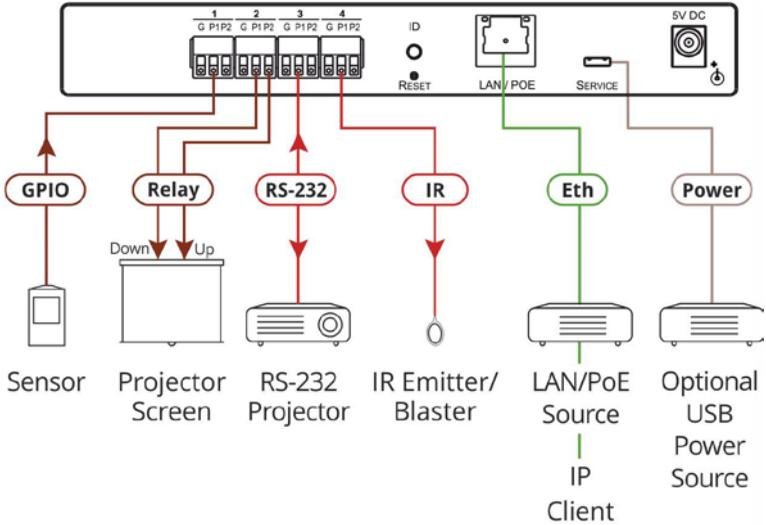

Figure 5: Connecting the FC-54P Ethernet Gateway - Serial/IR/GPIO/Relay
To connect the FC-54P as illustrated in the example in Figure 5:
6. If the **FC-54P** does not receive power from a PoE provider or a USB power connection, connect the device to the power supply and connect the power adapter to the mains electricity (not shown in Figure 5).